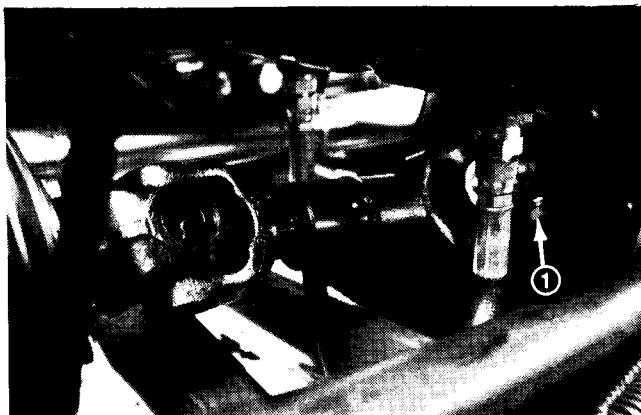

Figure 24
- 2. Capscrews (2)
5. Loosen two capscrews on pump yoke end of drive shaft. Pull pump yoke end of drive shaft off pump input shaft (Fig. 24).
NOTE: Install drive shaft to pump so center line of clamping bolts on drive shaft yoke is over center line of splines on transmission input shaft (Fig. 24).